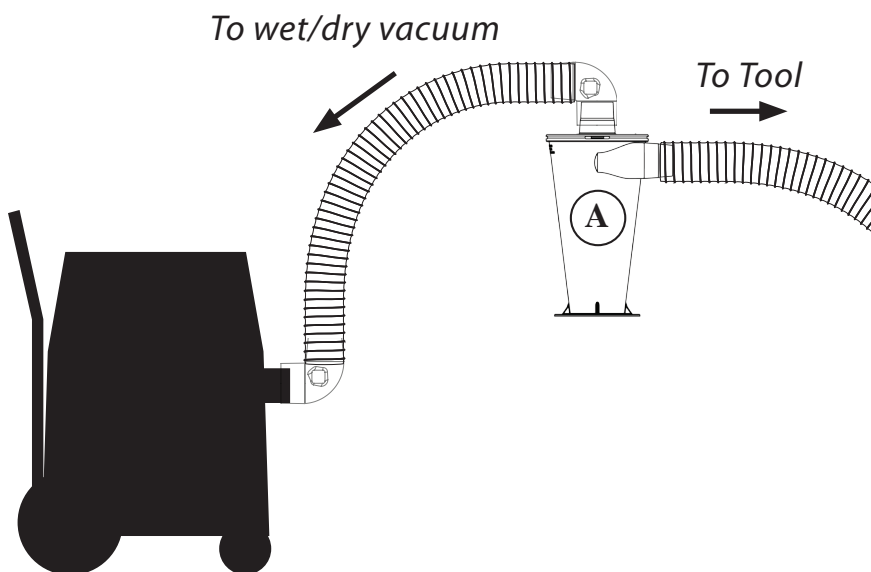

FIG. 5
Connect the Cyclone's (A) inlet (sideways facing port) to your dust producing tool with your vacuum's hose or ductwork. Connect Cyclone's outlet (upwards facing port) to your vacuum [FIG. 5] with hose or ductwork.